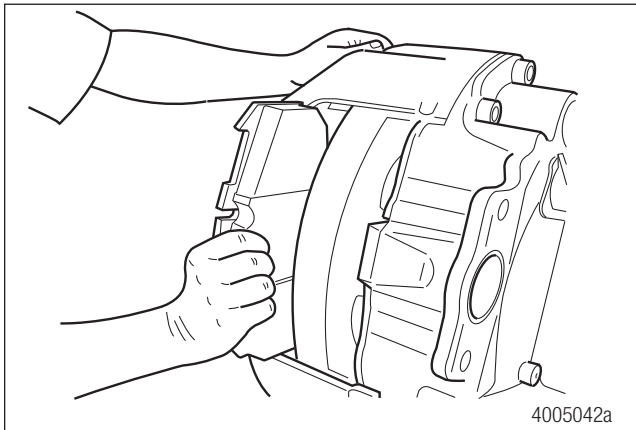

Figure 4.12
4. Remove the outboard brake pad from the caliper assembly and mark the brake pad "outboard". Figure 4.12.